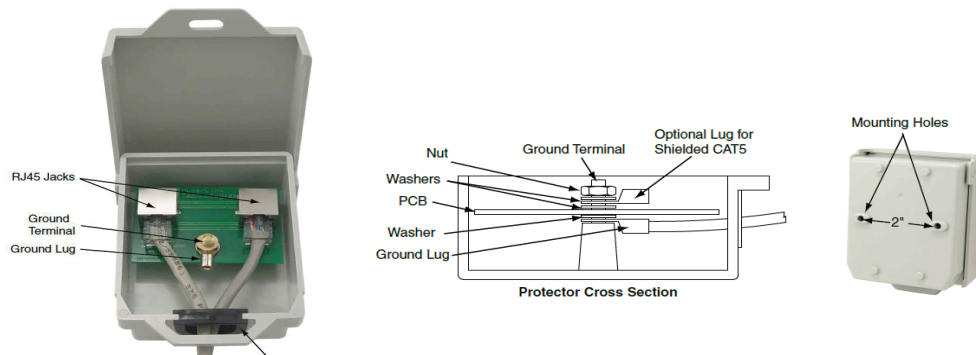

Fig. 4.5
- A surge protector/lightning arrestor is recommended if the RT7000 is mounted outside on an exterior wall. see Fig. 4.5. The ground lug supports up to 12 AWG wire but check with your municipality for local codes on appropriate grounding. With bidirectional protection, either RJ45 jack can be used. Contact HME if one or more are required.